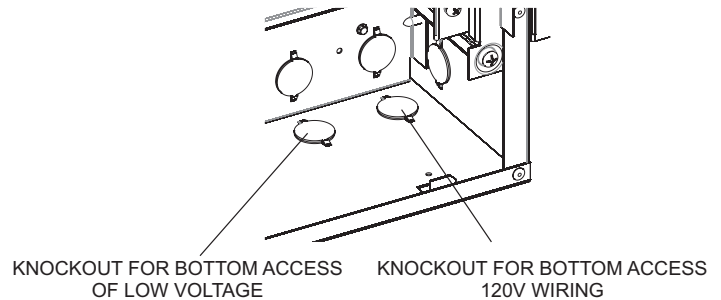

Figure 44
9. Using back and forth action, open the knockouts required for installation. Leave other knockouts closed. See Figures 44 and 45.